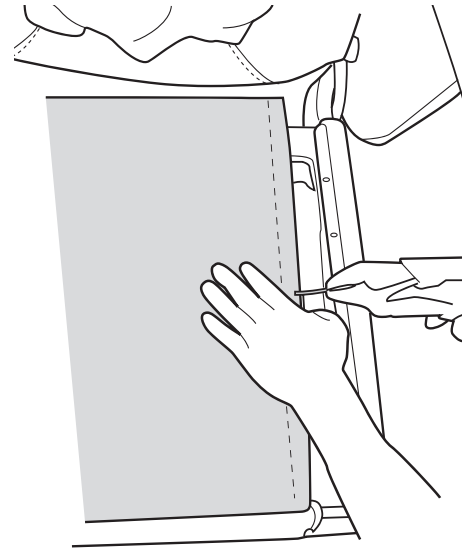

Fig.4
- B. Use a vice grip to replace each of the springs on the opposite side of the seat canvas (Fig.4).